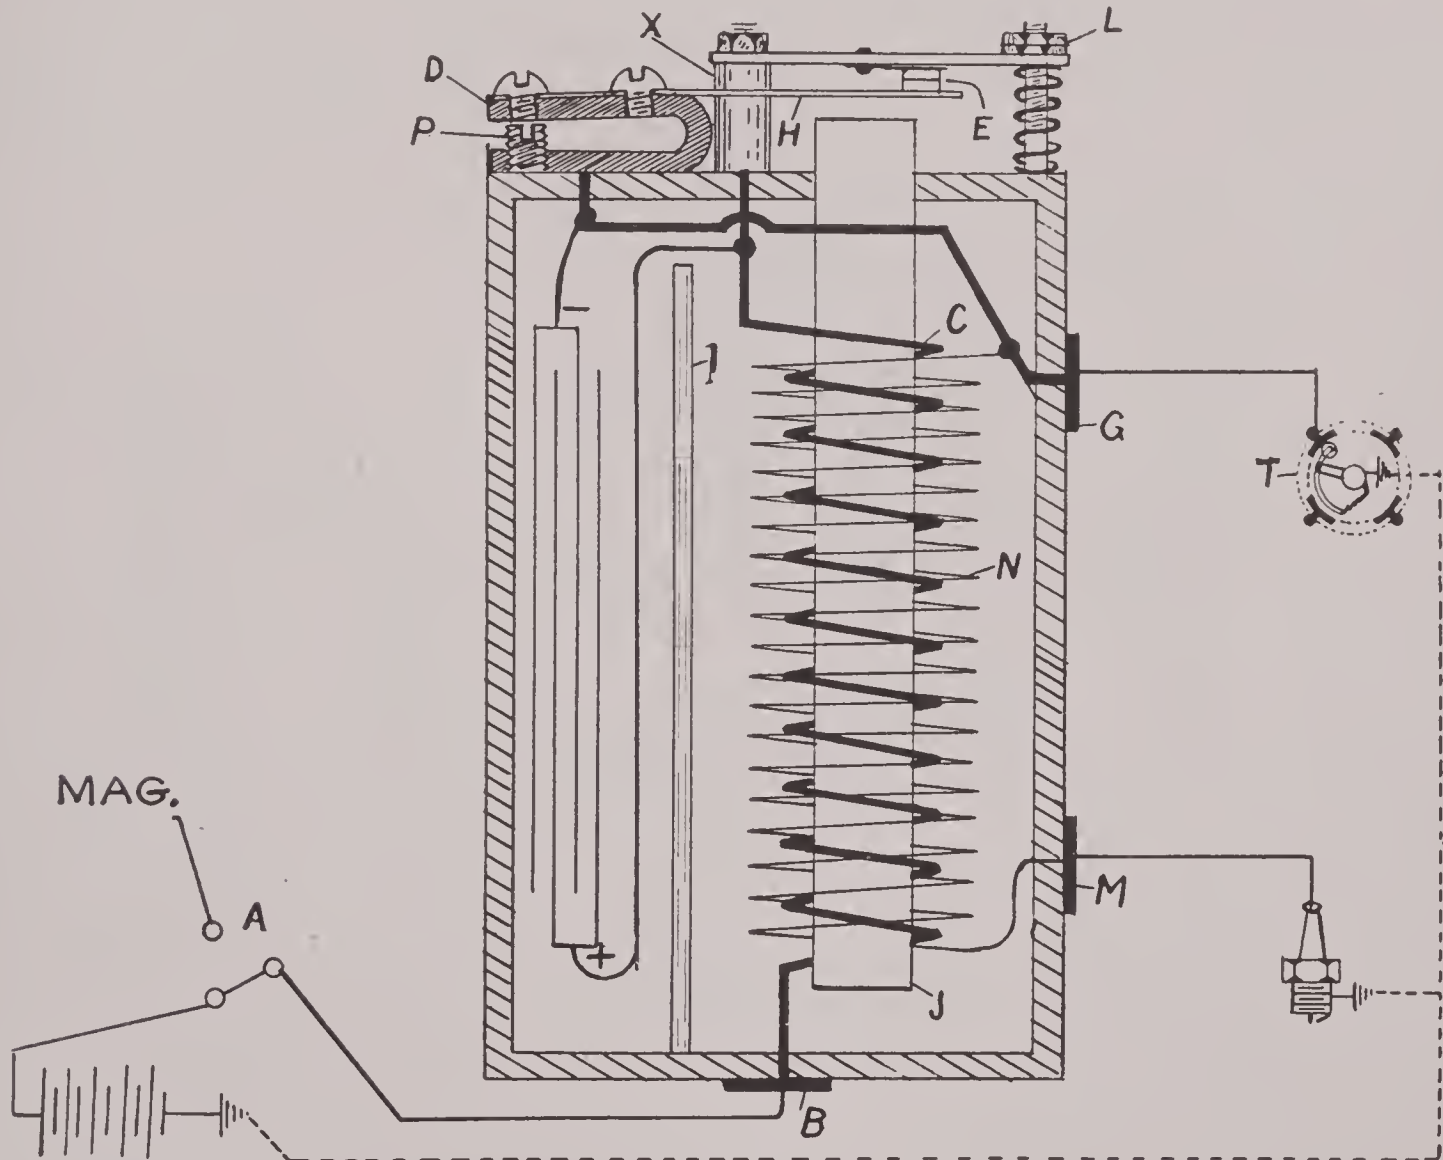

FIG. 269
Fig. 269 shows diagrammatically the construction of the Ford coil. The core (J) of the coil is a bundle of soft iron wires. The primary (C) is wound in two layers over the core. One end of the primary connects to metal contact (B) on the bottom of the wooden coil box. The other end of primary connects through the vibrator to the upper contact (G) on the side